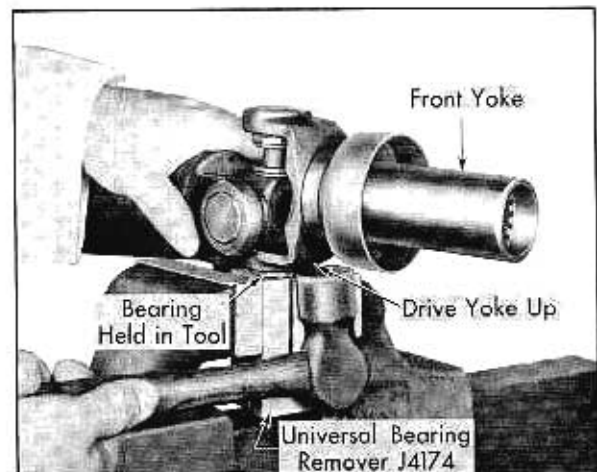

Fig. 8-12 Removing Bearings
4. Place tool with bearing in vise and tighten vise until tool holds bearing and drives yoke away from tool until bearing is removed. Fig. 8-12.